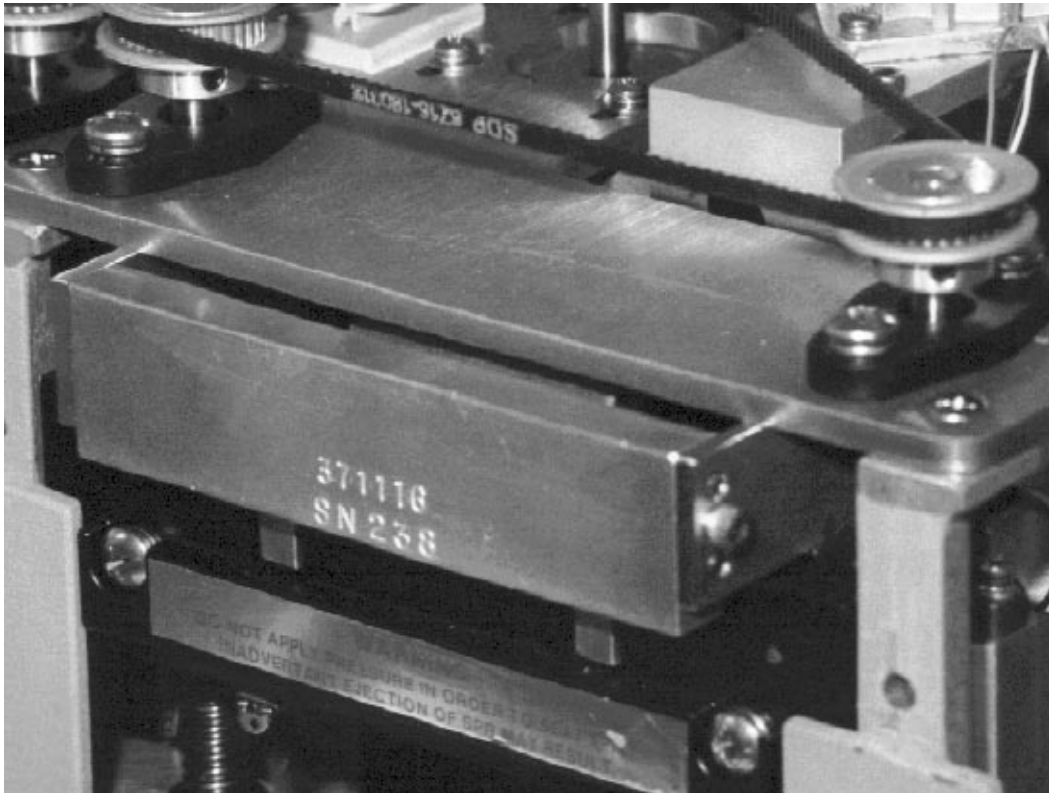

Figure 5-7 Tower Phasing
- b. Lower the Tower Assembly by manually turning the Tower Motor Drive Belt until the arms of the Tower Phasing Tool (P/N 371116-1) are easily inserted between the top of the Pump Assembly and bottom of the Top Plate of the mini VIDAS. Then, manually raise the Tower Assembly until the arms of the tool touch the bottom of the Top Plate (see Figure 5-7).